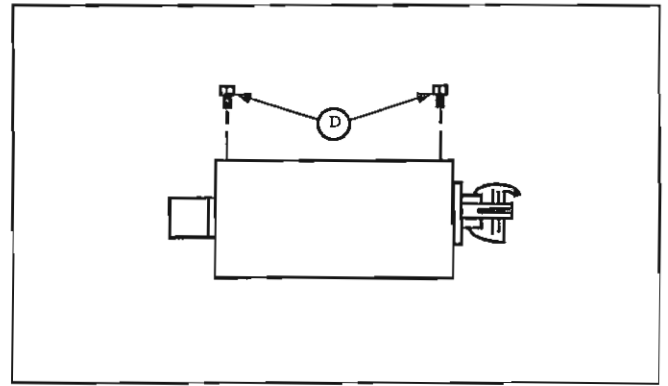

Figure 4-3
4. Remove screws (D) from top of burner housing and pull out burner (see Figure 4-3).